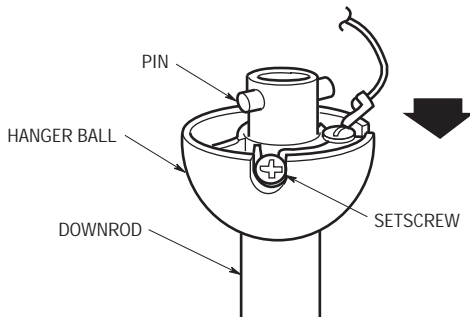

Figure 1A
1. Obtain the hanger ball/downrod assembly and remove the hanger ball by loosening the setscrew in the hanger ball until the ball falls freely down the downrod (Figure 1A). Remove the pin from the downrod, then remove the hanger ball. Retain the pin and hanger ball for reinstallation in Step 16.